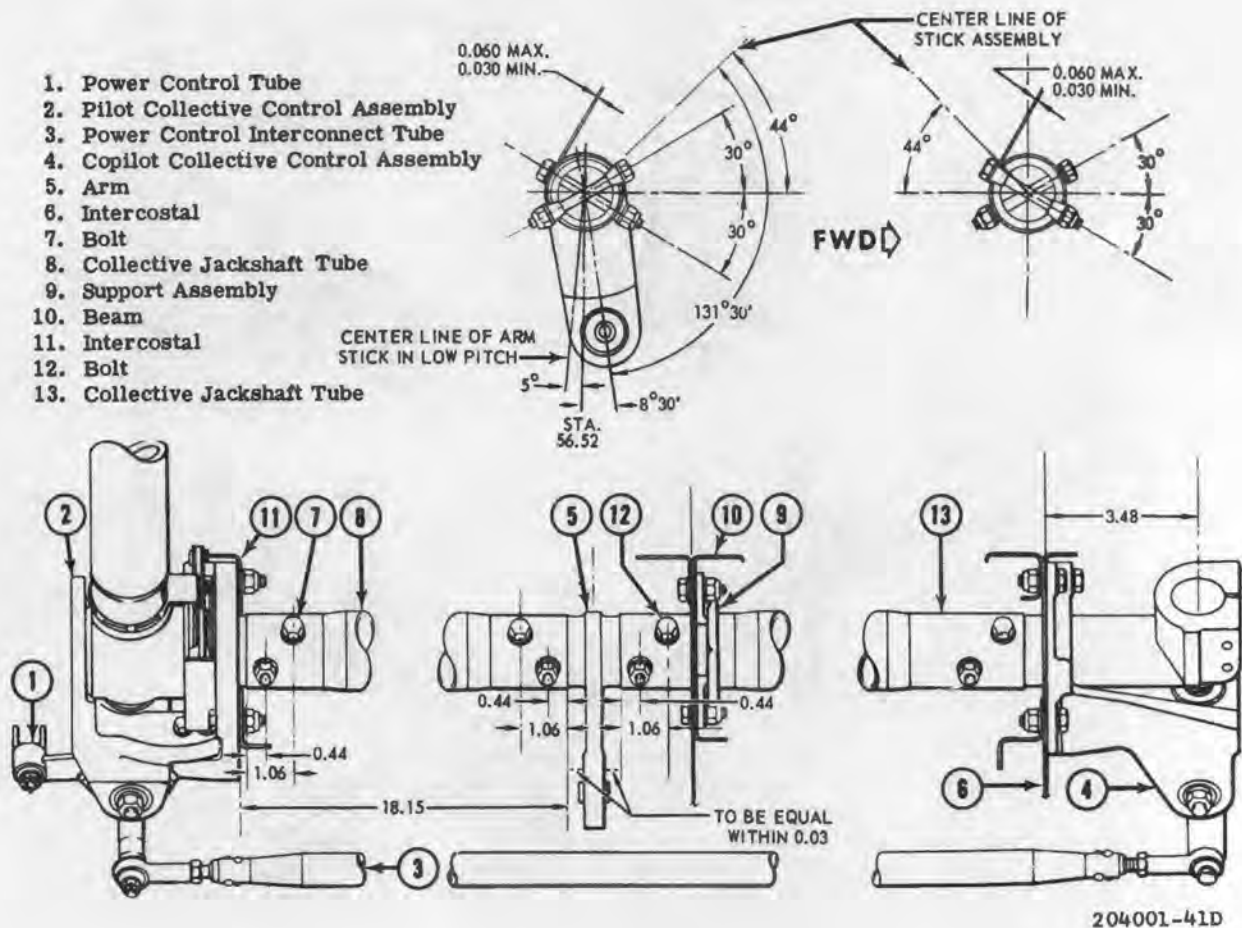

Figure 9-3. Collective pitch and power control assembly
c. Disconnect power control tube (1, figure 9-3) from gear lever of collective assembly (2).